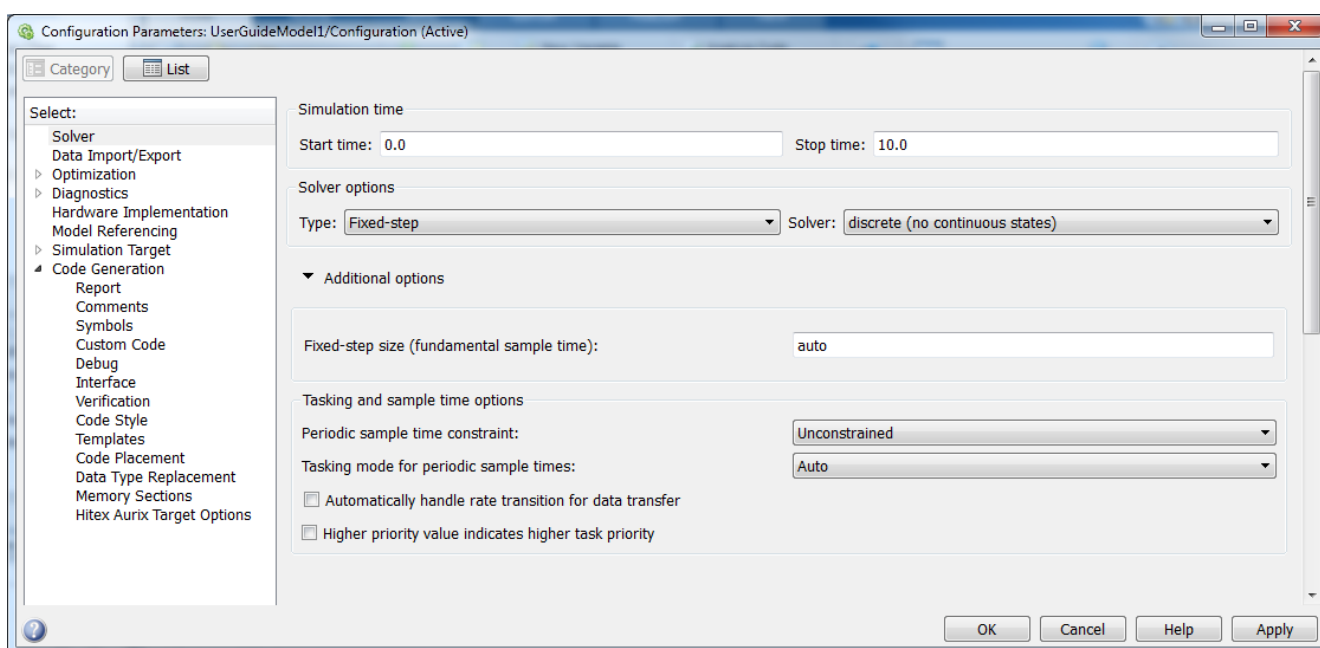

Figure 8 Solver Pane Settings
9. Now select the Solver pane, Figure 8